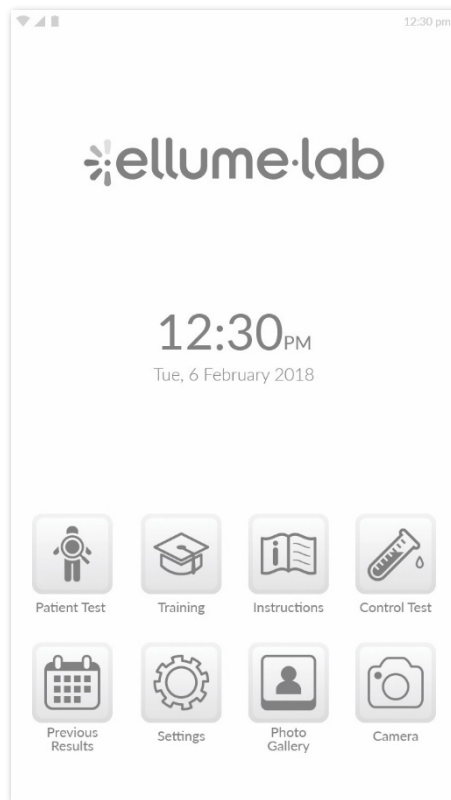

Figure 2 - Home Screen
Once the ellume-lab has booted, you will see the Home Screen (Figure 2). Press the *Settings* icon (Figure 9).
1. From the Home Screen (Figure 2) press the *Settings* Icon.
1. From the Home Screen (Figure 2) press the *Settings* icon.
The Home Screen (Figure 2) is the starting point for accessing features and applications of the ellume·lab. The *Patient Test* icon allows the users to perform a diagnostic test on a patient (Section 5). The *Control Test* icon allows the users to perform an External Quality Control (Section 5). You can also access other apps such as *Training*, *Previous Results*, *Instructions*, *Settings* and *Flashlight*.
All previous test results can be accessed by pressing the *Previous Results* icon (Figure 4) from the Home Screen (Figure 2). Previous results are identified by Patient/Control ID, unique eStick identifiers, date and time stamp, test type and outcome.
The *Instructions* app contains all instructional material for the ellume·lab Tests, including Information Videos, Instructions for Use, and Quick Reference Instructions. The *Instructions* app can be opened by pressing the *Instructions* icon (Figure 8) on the home screen (Figure 2).
The system settings can be accessed from the *Home Screen* (Figure 2) and pressing the *Settings* icon (Figure 9).
1. Press the from the Home Screen (Figure 2) press the *Settings* Icon.